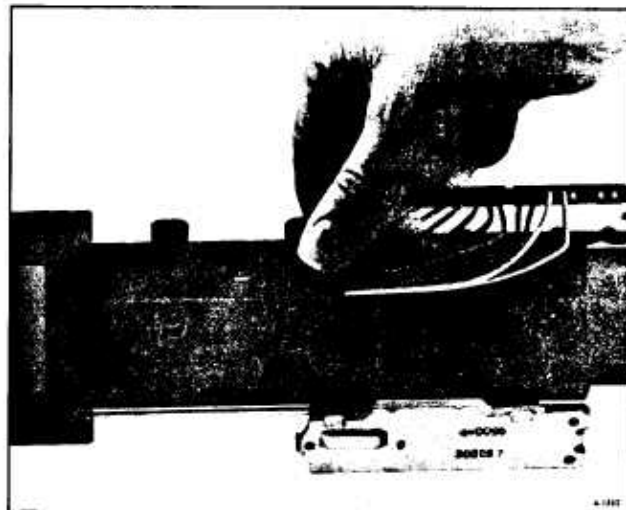

Figure 70—Removing Protector
8. Remove three switch mounting screws. Remove the four mounting bracket screws and the bracket from the jacket. Pull the connector out of the bracket on the jacket. Remove the protector from the jacket and strip the wires from it. (figure 70).